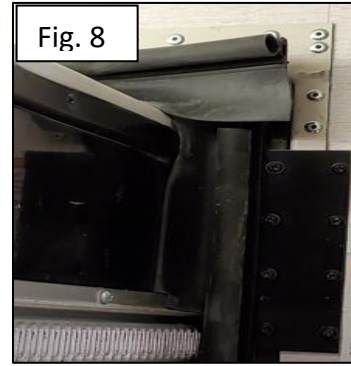

Fig. 8
10. Re-secure the trim with the fastener previously removed and slide the bulb seal back to the corner. (Figure 8)